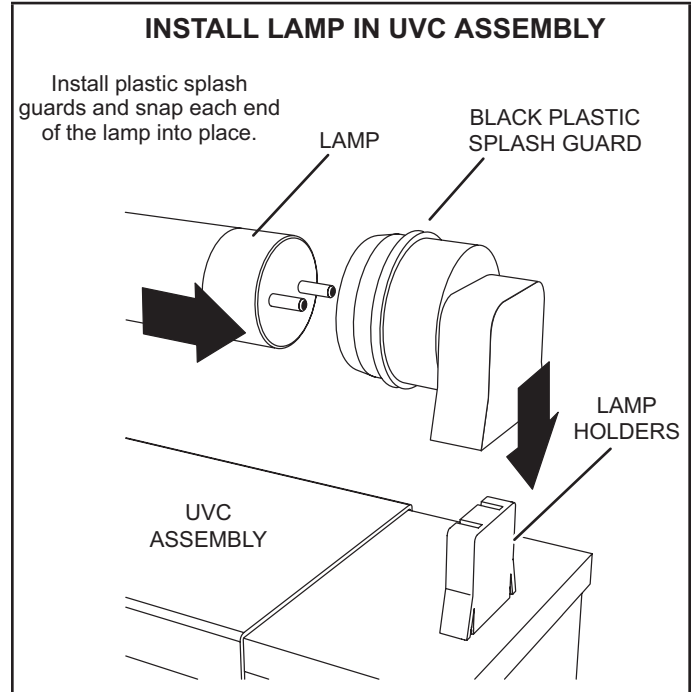

FIGURE 26
- 6 - Allow 10 minutes before touching the lamps. Then, carefully remove the lamp splash guards (and lamp for annual replacement) from each of the lamp holders. See FIGURE 26.